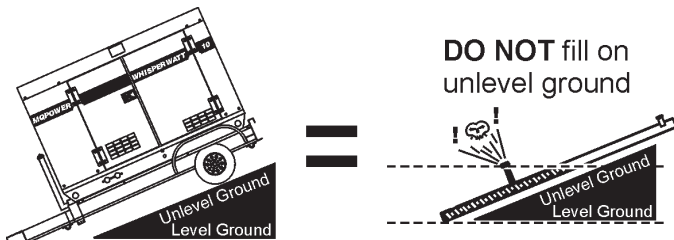

Figure 14. Only Fill on Level Ground
1. **Level Tanks** – Make sure fuel cells are level with the ground. Failure to do so will cause fuel to spill from the tank before reaching full capacity (Figure 14).